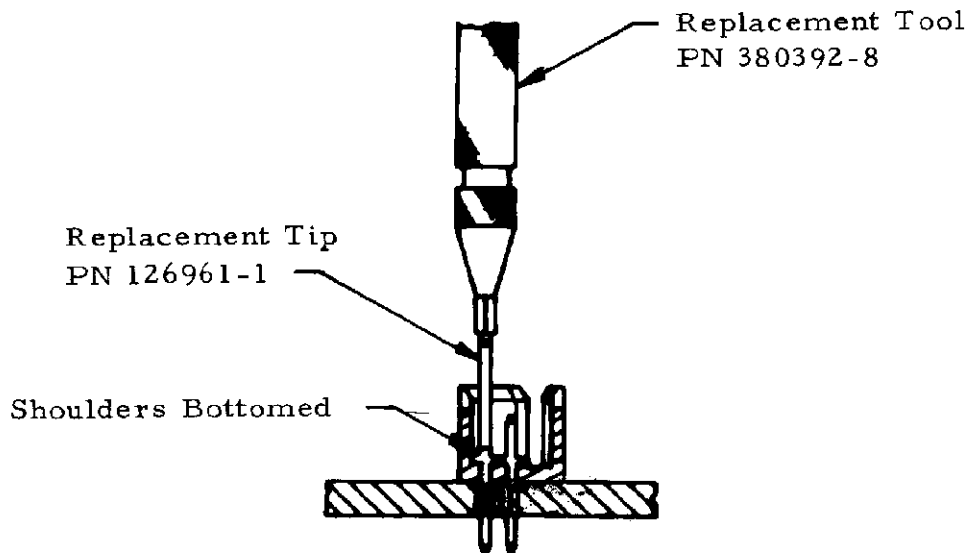

Figure 11
- D. Keeping tool perpendicular, apply force on end of tool until contact shoulders bottom on connector housing as indicated in Figure 11.